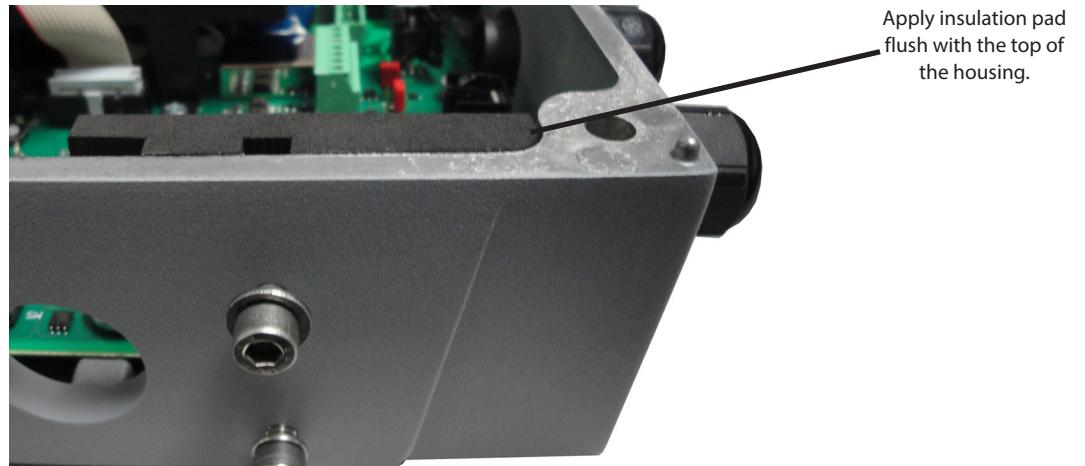

Figure 3: Installing foam insulation pad
- Prior to inserting the daughterboard, install the foam insulation pad as shown Figure 3 on page 5. Be sure to align the groove with the two screws attaching the detector or wall mount bracket to the enclosure. The primary purpose of this pad is to ensure the daughterboard is insulated from the enclosure wall. It is important to install this pad flush with the top of the enclosure wall.